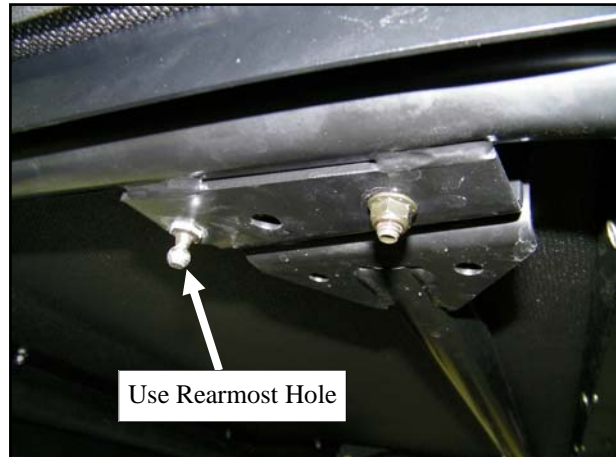

Fig. 13.1 (view of ball stud, front passenger's side)
**13.1** Install four ball studs to the OPS (two on each side, front & back) as shown in figure 13.1.